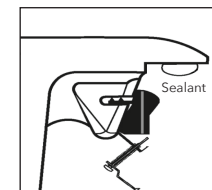

Figure 3
4. Apply a "rope of plumbers putty or caulk around the perimeter of the underside of the sink. For final fit, make sure each sink clip is pulled back as illustrated. Position the sink into the worktop opening. (Figure 3)